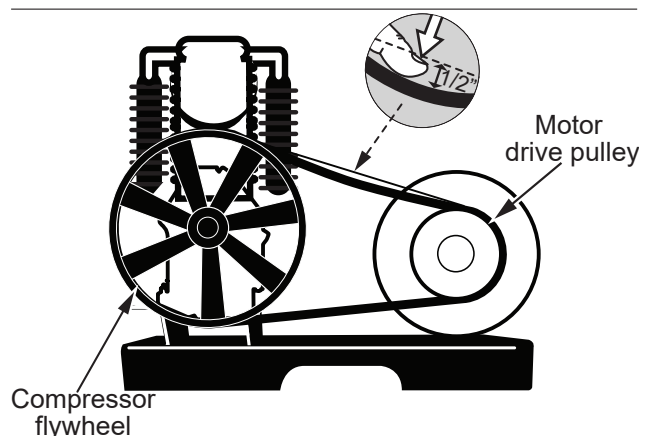

fig.10 Proper belt tension
4. Check for proper belt tension. There should be 1/2 inch (12.7 mm) of slack when about 10 lb. (4.5 kg) of force is applied (use your thumb) to the twin drive belts at about halfway between the motor's drive pulley and the driven flywheel on the compressor. Refer to fig.10.